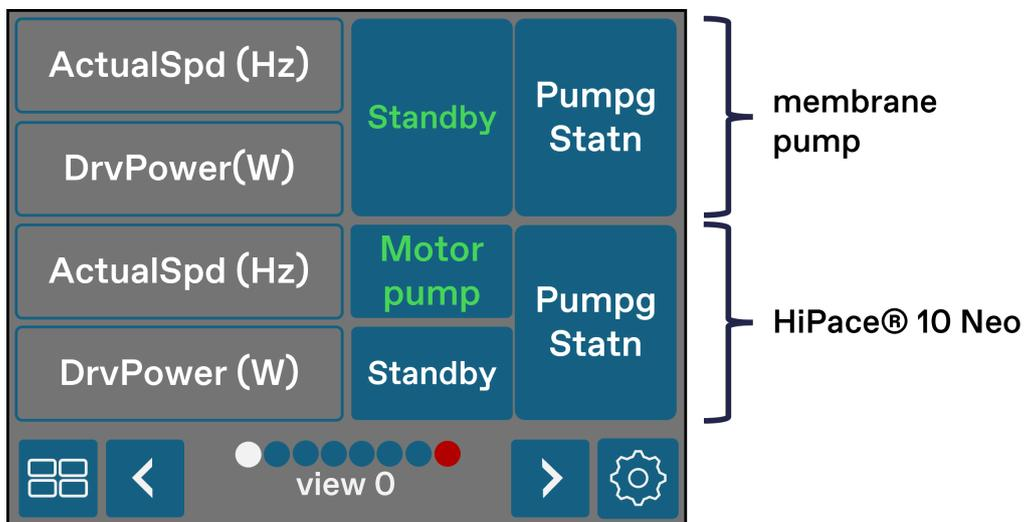

Figure 25: "view 0" screen for operating the membrane pump (top) and the HiPace® 10 Neo (bottom)
- A new screen will pop up called "view 0" (Figure 25), where the top half is for controlling the membrane pump (backing pump) and the bottom half is for controlling the HiPace® 10 Neo (turbo molecular pump). The HiPace® 10 Neo pumping setup is now ready for use.